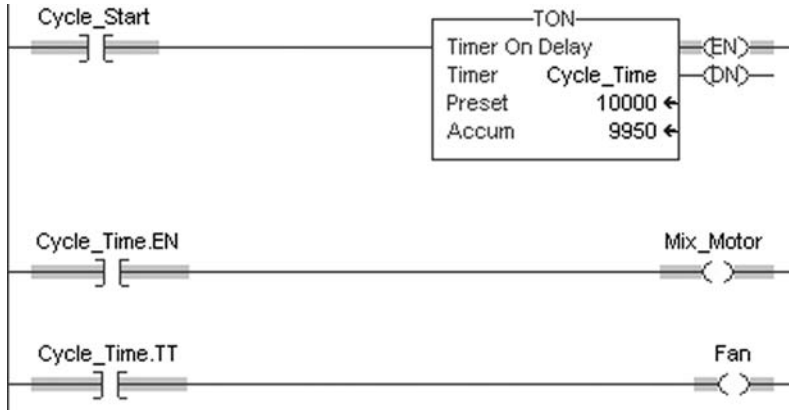

Figure 4-5 Use of timer EN and TT (true) bits in ControlLogix.
Another useful status bit is the timer timing (TT) bit. The TT bit is set to true when the rung conditions become true. The TT bit remains true until the rung goes false or the DN bit is set (accumulated value equals PRE value). Figures 4-5 and 4-6 show the use of the timer TT bit. In the first figure the ACC value has not reached the PRE value, so Cycle_Time.TT is true. The second figure shows that the TT bit is false when the ACC value reaches the PRE value.